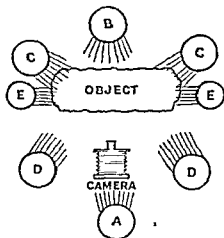

FIG 22
Fig 22 is a plan showing several different lighting effects, object and camera remaining stationary. The sun should never shine upon a view from a point behind the camera (as at A), because in such a position the fewest shadows are seen in the subject and the result is a flat picture with no "life", foliage appears dead and does not stand out boldly as it should, and would with better lighting. Amateurs are often told to photograph when the sun is a little to one side (D), i.e. "over